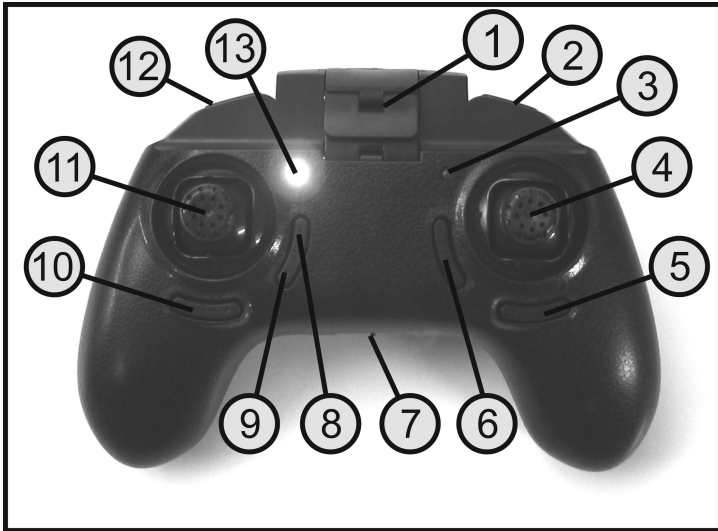
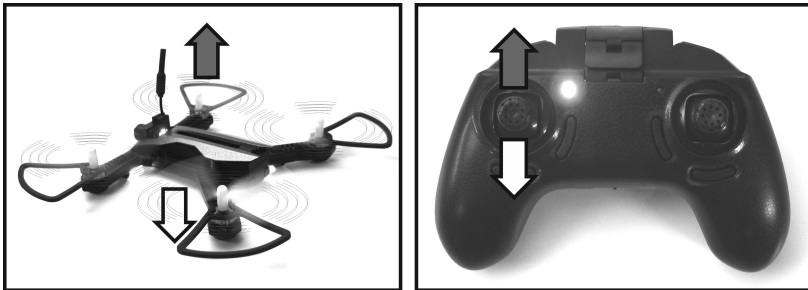

Figure 1
Figure 8
Slide the on/off switch (see also Figure 1, no. 7) from the left position (OFF) to the right position (ON).
The transmitter emits a short beep. The blue LED function indicator will glow steadily (see also Figure 1, no. 13). The red LED function indicator (see also Figure 1, no. 3) will flash slowly.
With the pitch function you can control the flying height of the helicopter (see Figure 8). Steering is carried out with the left joystick (see also Figure 1, no. 11). It can be moved forwards and backwards without repeatedly springing back into the centre position as with other joystick functions for this purpose.
If you push the control stick forward from the bottom-most position, the propellers turn on and increase the speed according to the position of the stick. If the joystick is in the centre position, the speeds of the propellers should be high enough that the quadrocopter hovers. If you push the joystick further forward, the quadrocopter will take off (see dark arrows in Figure 8). When the joystick is pulled back, the quadrocopter descends (see light arrows in Figure 8).